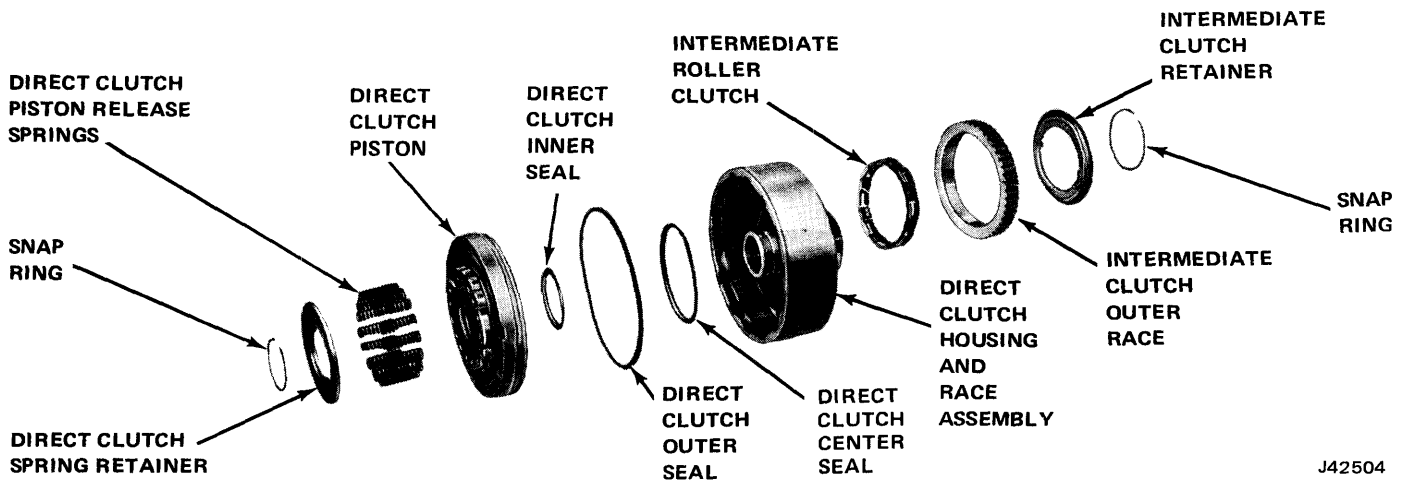

Fig. 7-79 Intermediate Roller Clutch and Direct Clutch Components
(2) Remove retainer, intermediate clutch outer race, and intermediate roller clutch (fig. 7-79).
(7) Remove outer seal and inner seal from piston (fig. 7-79).
(8) Remove center seal from direct clutch housing.
(7) Place 14 release springs in recesses of piston and install spring retainer over springs (fig. 7-79).
(8) Compress springs using Spring Compressor J-25149 and arbor press and install retaining snap ring.